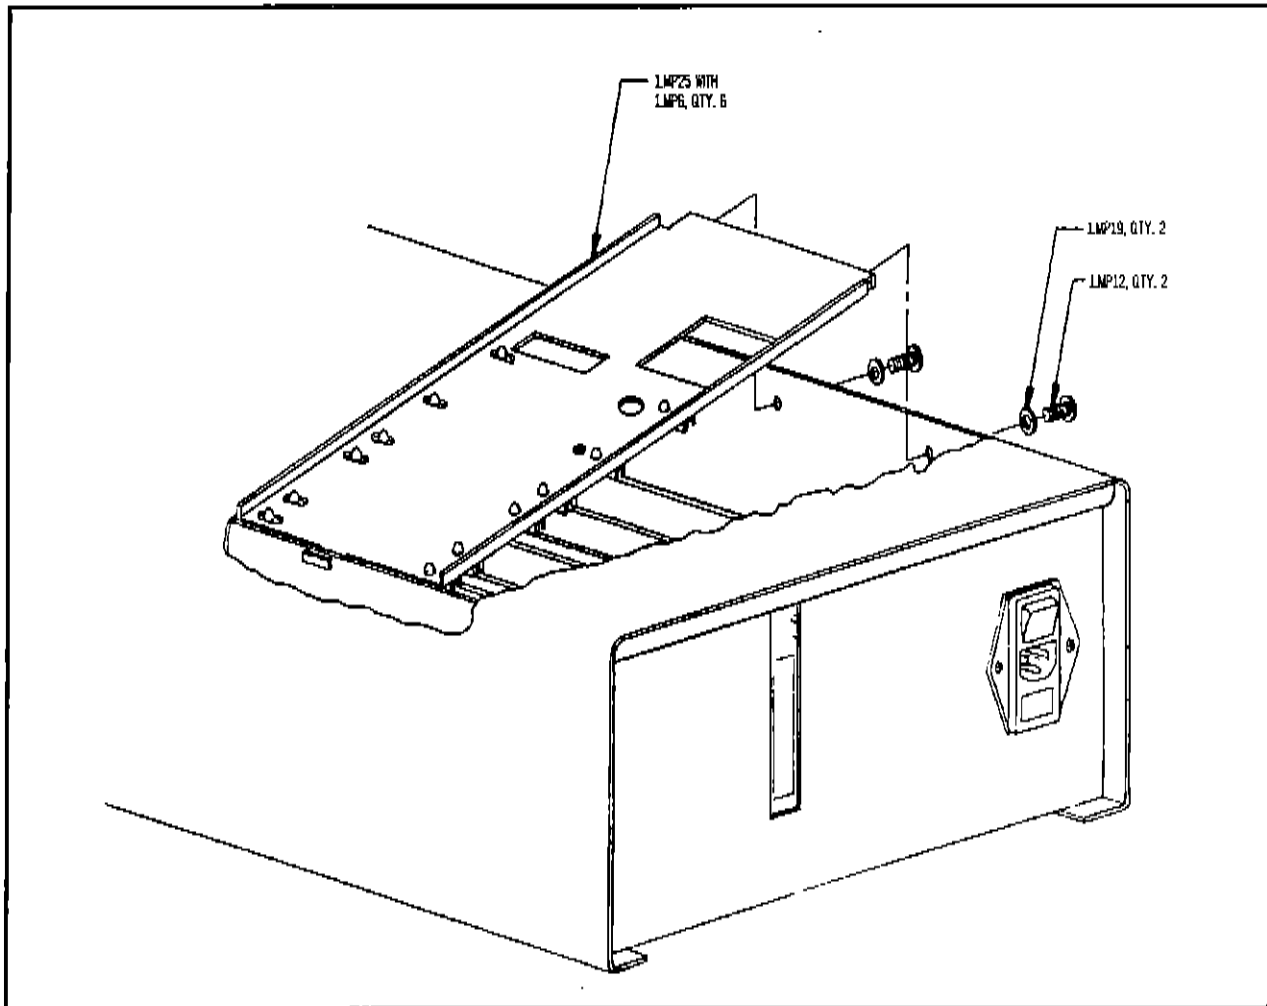

Figure 3-2. PCB Retaining Bar Removal.
2. PCB Retaining Bar Removal (refer to Figure 3-2)
### 11. PCB Retaining Bar (Figure 3-2)